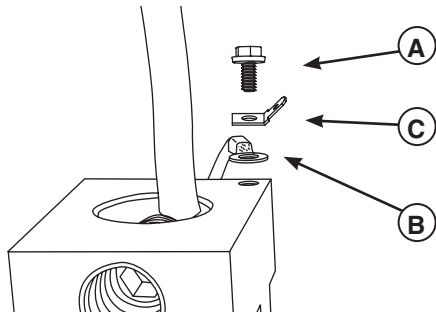

Figure 7 - Add Male Disconnect Adapters to Contactor Terminals
2. Using existing screw (**A**, Figure 7) and existing ring lug (**B**), install male disconnect adapters (**C**, 74138GS) to both transfer switch contactor terminals on the generator side of the transfer switch. Torque screws to value listed in transfer switch.
3. Connect Wire Assembly C to transfer switch male disconnect adapters (**C**, Figure 7) and other end to fuse holder (FH1). Repeat for the other leg of the generator.
2. Using existing screw (**A**, Figure 7) and existing ring lug (**B**), install male disconnect adapters (**C**, 74138GS) to both transfer switch contactor terminals on the utility side of the transfer switch. Torque screws to value listed in transfer switch.